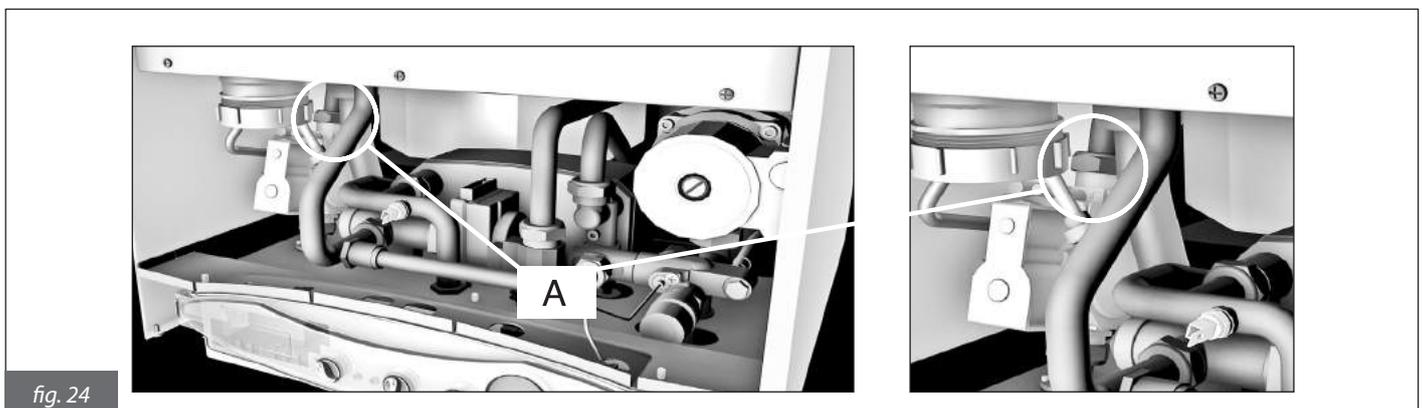

fig. 24
- unscrew the outlet connection to the gas valve (**A** in fig. 24);
- re-connect the outlet connection to the gas valve (**A** in fig. 24);